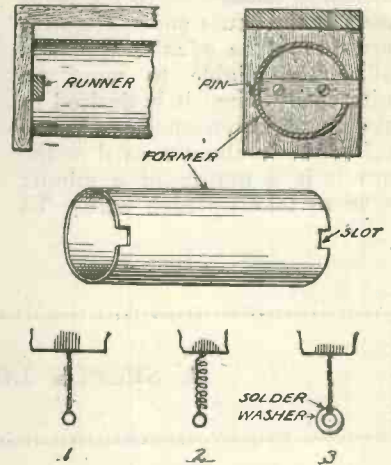

Fig. 6.—Details of the Former and Runner.
It is often desirable to remove tapped coils in order to substitute a coil of a different type of winding. The following device simplifies the matter and enables one to remove a coil from its supporting frame, yet leave the contact studs, switch arm, etc., intact for the replacement of another coil. The method of doing this is shown in Fig. 6. Each side supporting the coil has a wooden runner screwed on the inside on the centre line of the coil. A slot is cut at each end and on the same side of the coil in order to form a groove or guide for the runner. The coil is then pushed into position with the grooves retaining the runner, the side opposite the slot acting as a stop against the end of the runner. After pushing home the latter a small pin is then passed through each end of the coil into each runner. In Fig. (6) three methods of making